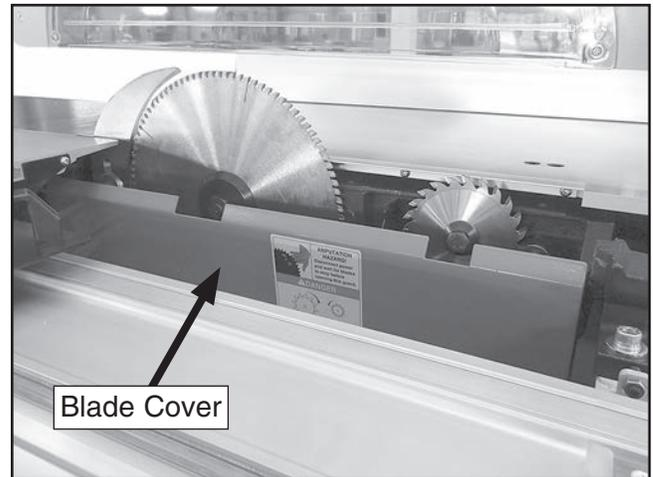

Figure 71. Blade cover open.
10. Push the STOP button, move the sliding table all the way to the left, then carefully open the red blade cover, as shown in **Figure 71**. This activates the blade cover safety switch to prevent the saw from starting while the cover is open.